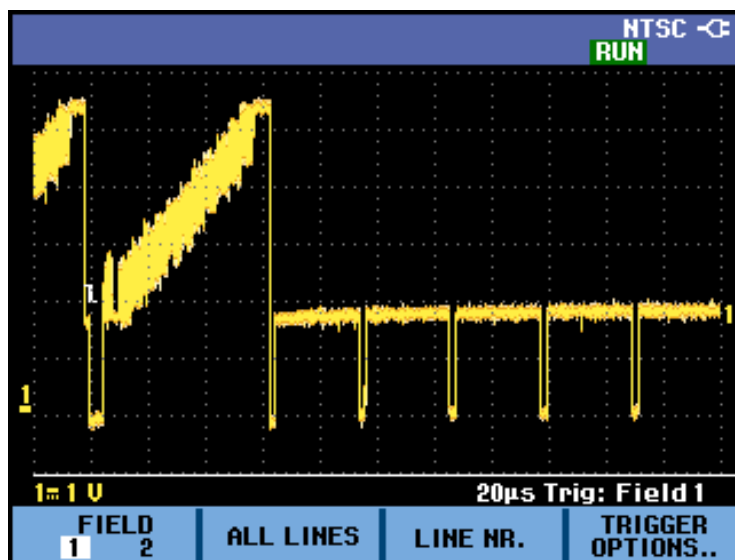

Figure 35: Trigger on NTSC video signal field 1
- Adjust trigger video settings as needed in the menu that appears. For example, to trigger on either the first half of a frame (Field 1, odd) or the second half of a frame (Field 2, even), select that field from the **FIELD** menu and the signal part of that field will be displayed. (See Figure 35.)